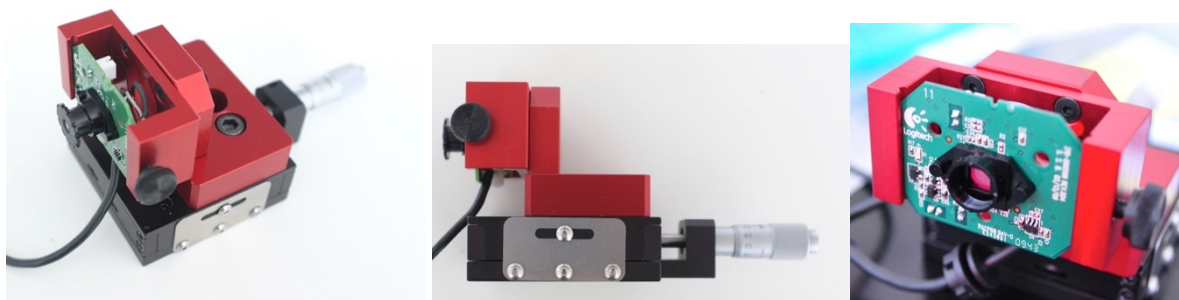

Figure13 Mechanical holder to fix the camera. Unscrew the original objective to that the IR filter becomes visible.
- Take care the original objective of the camera is not installed (Fig. 13)